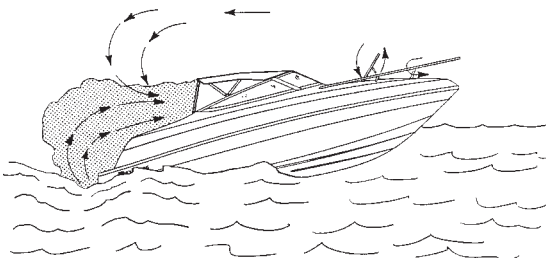

Figure B9: Backdrafting - Air flows over boat and behind transom.
Backdrafting or the "station wagon effect" is caused by air movement over or around a boat creating a low pressure area or suction area around the stern that can increase CO level on the boat. Backdrafting can be affected by relative wind direction, boat speed, and boat trim angle. See Figure B9 Backdrafting - Airflows Over Boat and Behind Transom".
3. Canvas Configurations - Under various conditions, adding or removing canvas may raise or lower CO levels. See Figures B9, B10 & B12.